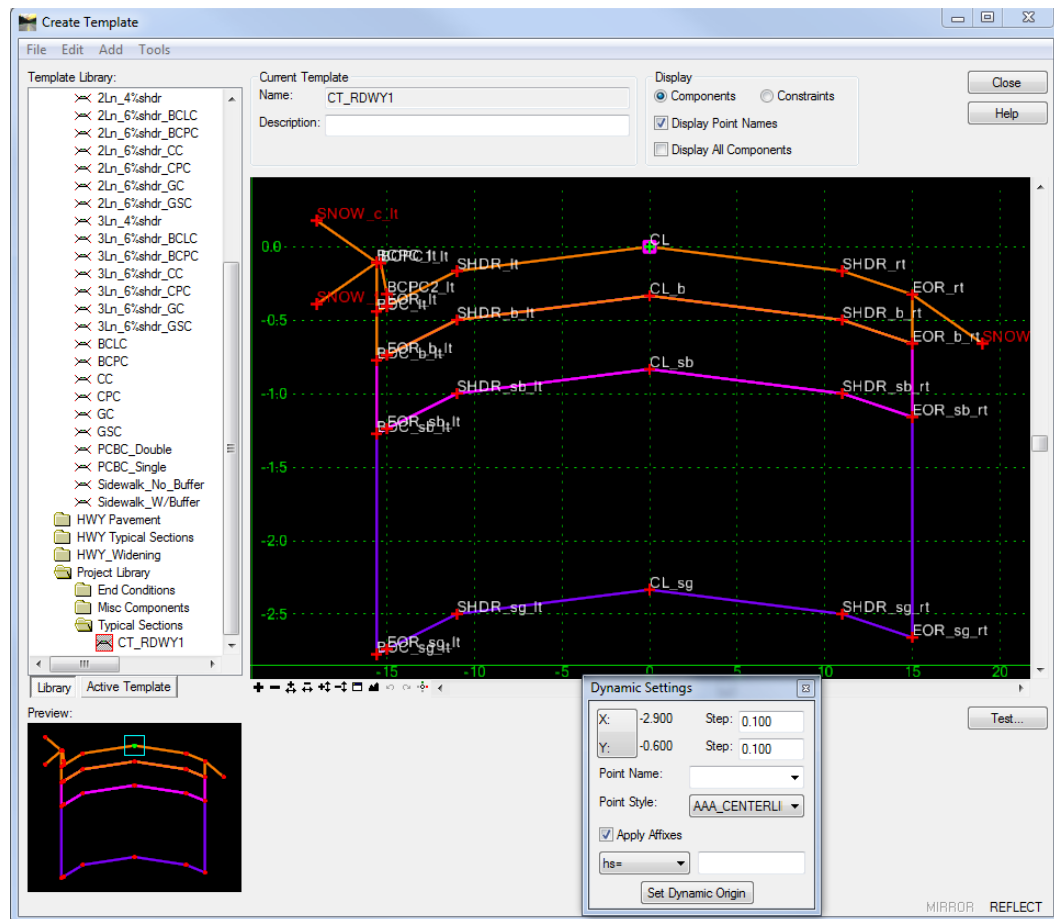

Figure 6-17 Inroads Dialog Box Merging Components
- J. To merge pavement components. Right click very close to the center of the top pavement component and select **Merge Components**. The orange line down is deleted, meaning the two (2) pavement components have been merged into one (1) component. Continue this process with the pink and purple shapes. Figure 6-17 shows the dialog box for creating a template.